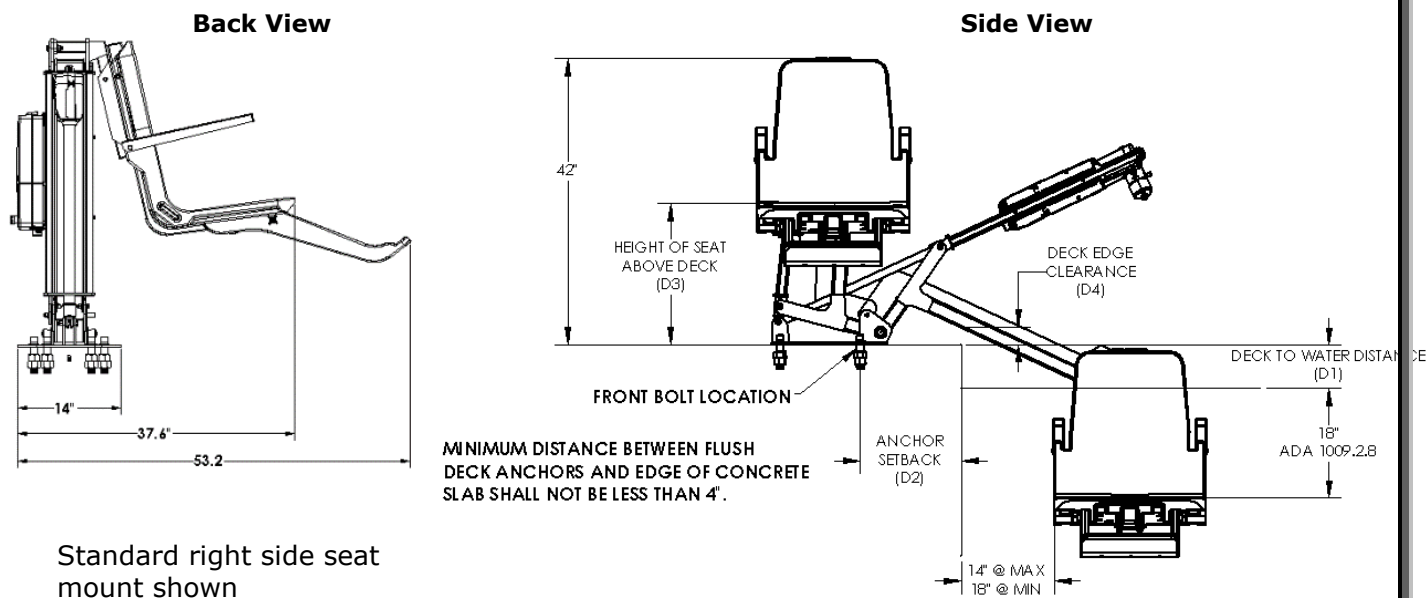

Figure 10. Installation Layout
12. Attach seat assembly with bolt and thumbnut in appropriate hole. Refer to **Figure 10** and **Table 1** to determine the correct seat mounting hole to use. Also see **Figure 6**.
The optimal mounting distance for the deck front anchors is 12.5"/ 31.75 cm from the edge of the pool. The front anchors can be installed up to a maximum of 17"/43.18 cm from the edge of the pool, but the deck edge clearance decreases the farther the lift is installed from the pool edge. The setback distance from the pool edge to the front anchor locations varies depending upon pool geometry. The ML300 is designed to be used with simple pool edge designs with deck to water level differences of 0" to 8" maximum. Review **Figure 10** and **Table 1** to determine the correct seat mounting location and anchor installation setback for your pool.
3. Use **Figure 10** and **Table 1** to determine the proper location to install the lift, making certain that the front anchors are located the correct distance from the pool edge.
2. Use **Figure 10** and **Table 1** to determine the proper location to install the lift, making certain that the front anchors are located the correct distance from the pool edge.